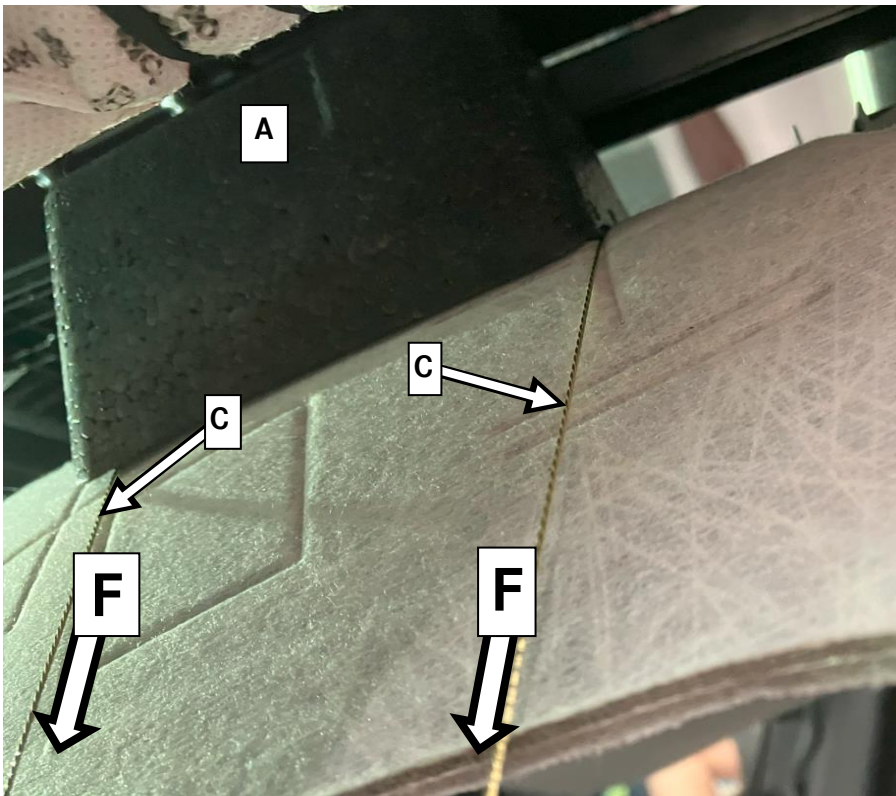

Figure 5 (Right side, looking towards left rear door, with roof lining partially lowered)
8. Perform cutting movements with the cutting wire (**Figure 5, C**) by pulling diagonally downward, parallel to the headliner. Observe path of cutting movement while cutting. Only pull (**Figure 5, F**) far enough to detach foam block (**Figure 5, A**) as **one whole piece** from headliner.
i Cut in a slow side-to-side motion to avoid heat development, while gently pulling diagonally down (**Figure 5, F**).